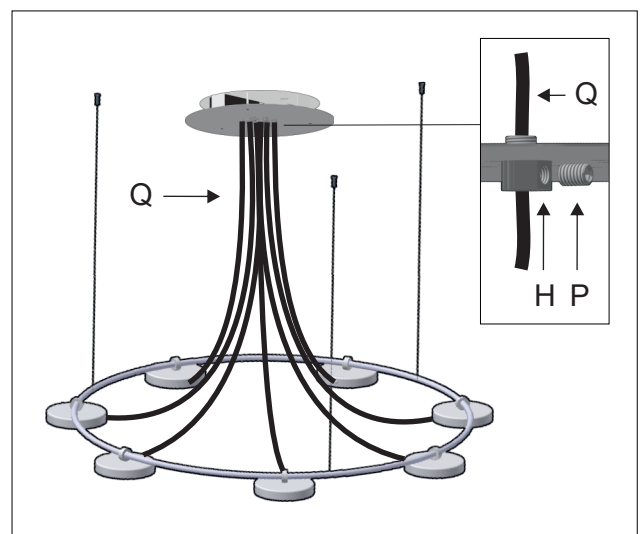

Figure 5
- 5 - Unscrew the allen screw (P) of the strain relief (H) and insert the electrical wires (Q) that come from each lampshade through. Once the cables have the desired length, screw the allen screws again and cut the excess wire. Figure 5